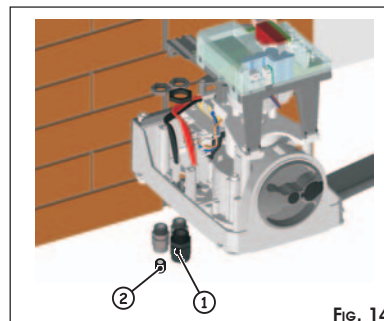

Fig. 14
- ① Install all the three supplied cable grippers with the securing nuts (Fig. 14).
- Always use the largest cable gripper (Fig.14 ref.①)
- If the other two cable grippers are not used, they must be closed, using the supplied plugs (Fig.14 ref.②). Fit the plastic plug in the cable routing hole and close the cable gripper until it is tight.